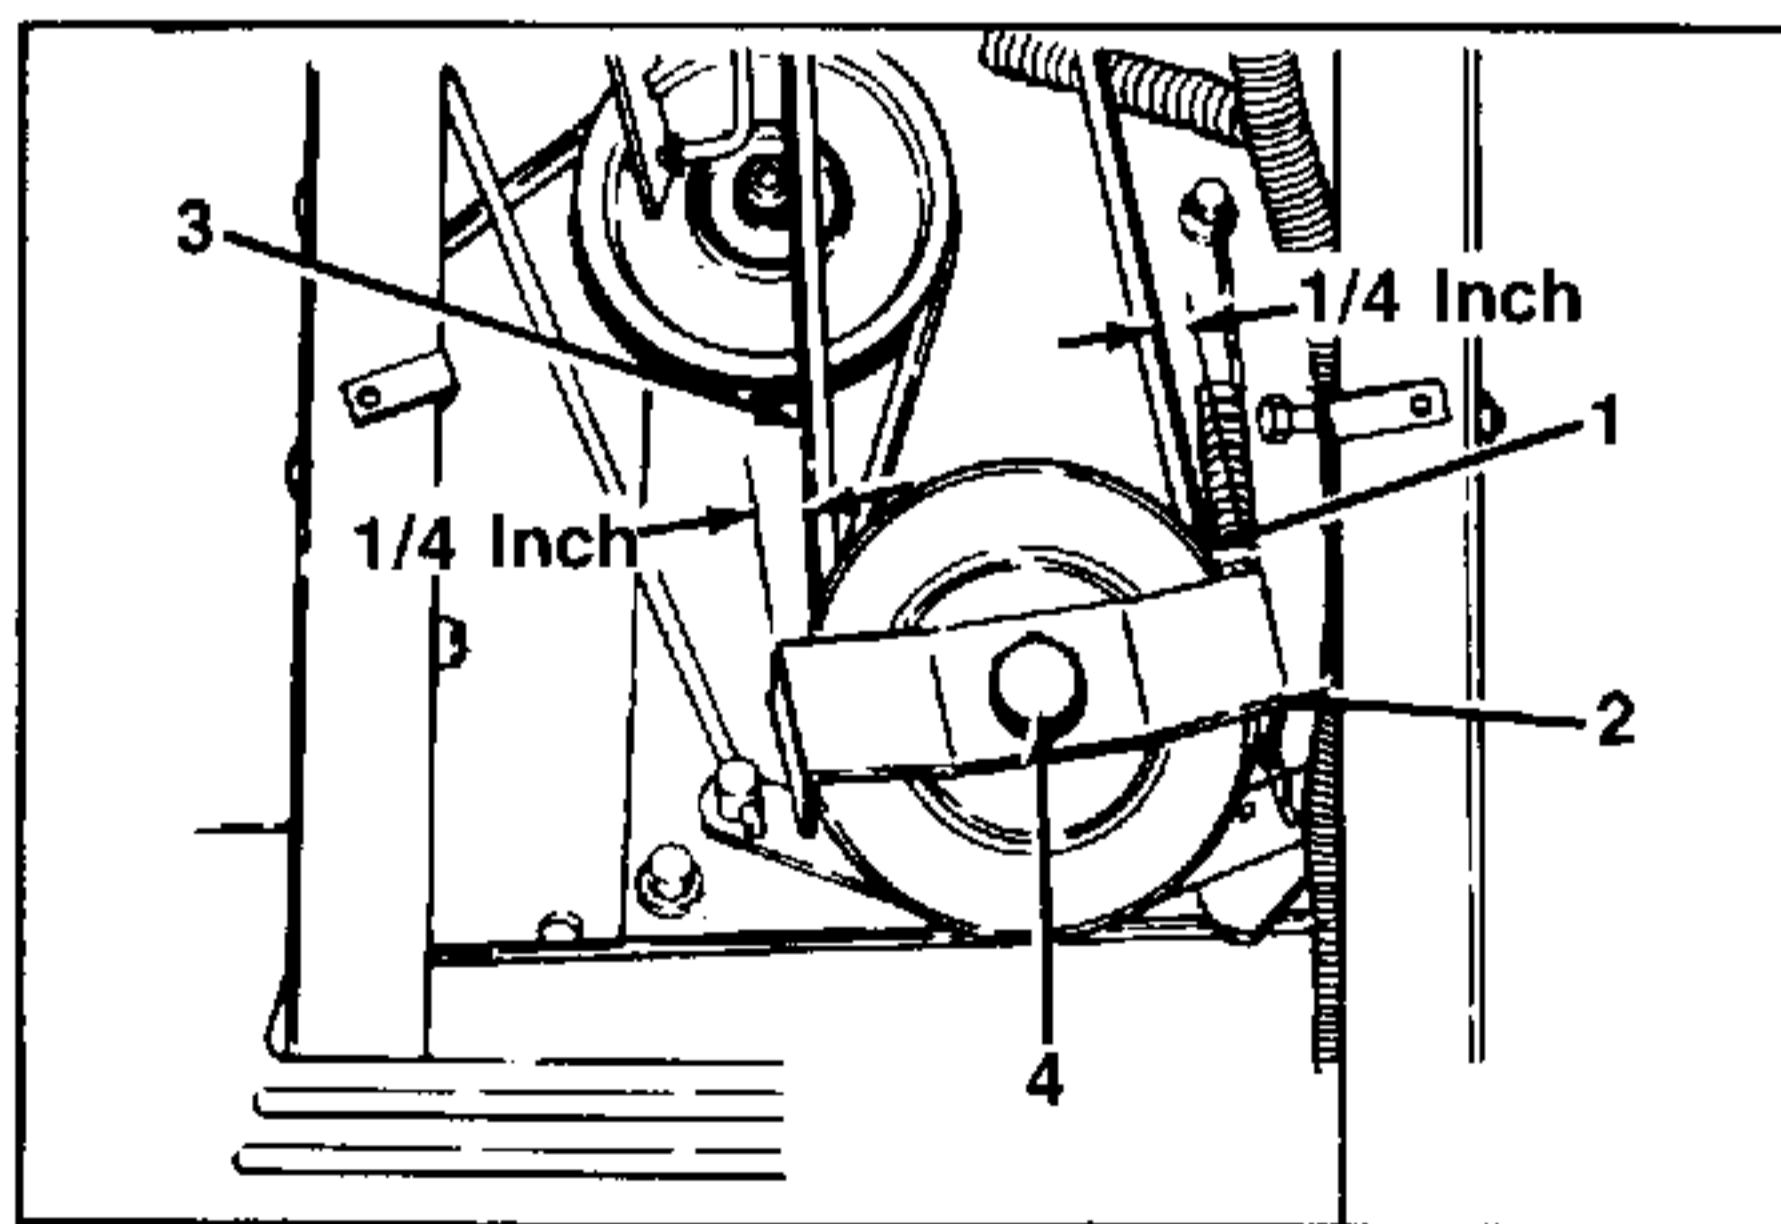

FIGURE 17.
- While sitting on the tractor seat, look through the frame and locate the deck double drive pulley and belt guard. The double drive pulley belt guard should be positioned so that the PTO drive belt is the same distance (approximately 1/4 inch) from each edge of the belt guard. Refer to figure 17.